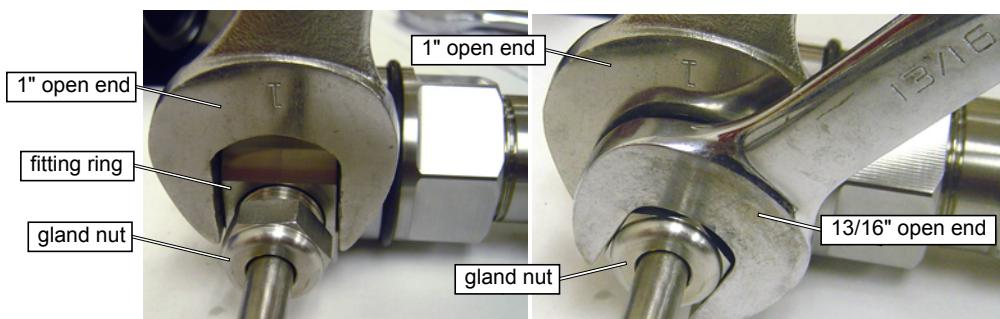

Figure 5-38
9. Remove **gland nut** from the fitting ring (Figure 5-38) and carry the **Dual On/Off Valve Assembly** to a clean work area for rebuilding.
3. Tighten gland nut on the UHP input line using 13/16" and 1" open end wrenches. Tighten to 50 ft. lbs. (no greater than 75 ft. lbs. Refer to Figure 5-38).